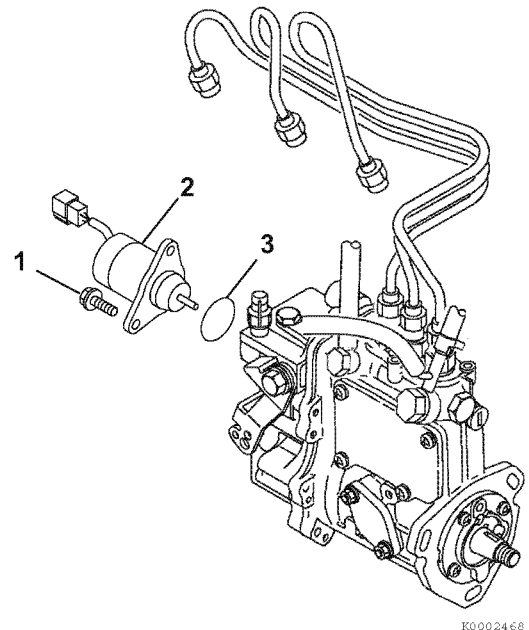

Figure 7-27
3. Remove two screws (**Figure 7-27, (1)**). Remove the stop solenoid (**Figure 7-27, (2)**) and O-ring (**Figure 7-27, (3)**).